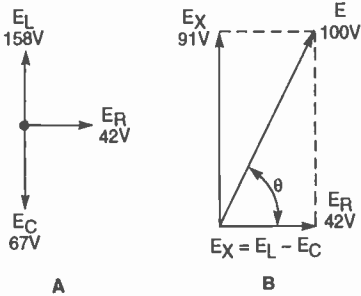

Fig. 2. When the inductive reactance is greater than the capacitive reactance, a circuit becomes inductive.
Fig. 2. As this schematic shows, the ADXL50 accelerometer, U2, interfaces with an A/D converter, U3, to drive a 3 1/2-digit LCD module, DISP1. Because that module displays any number from -19.99 to +19.99, the circuit is designed to measure g's within that range.
Use Figs. 2, 7, and 8 as guides when making the connections. Be sure to allow sufficient wire length to accommodate the final position of the boards. Check the wiring between the two boards carefully; an error there will result in garbled display digits, or no display at all.
For example, let's take the same series RLC circuit, but observe its operation at 200 Hz. This time the value of inductive reactance (3770 ohms) is greater than the value of capacitive reactance (1592). The vector diagram of Fig. 2 shows the circuit now behaves inductively as a result.
**The Circuit.** The schematic of the complete Variometer Radio is shown in Fig. 2. An antenna can be connected to the Radio through either of two points labeled ANT: either directly to the circuit or through a 100-pF capacitor. The ground connection can be made at any of the points marked GND. There is a reason for the preceding options: By varying the antenna capacitance, the ground connection, and the position of the sliding coil, the entire AM broadcast band can be tuned.
Here's the author's completed radio. For simplicity, it is laid out much like the schematic shown in Fig. 2.
Fig. 2. Here is the modern variometer principle at use in a complete Variometer Radio. Even if you've never built a radio before, you can build this crystal set; the parts count is low, and the coil windings are not critical.